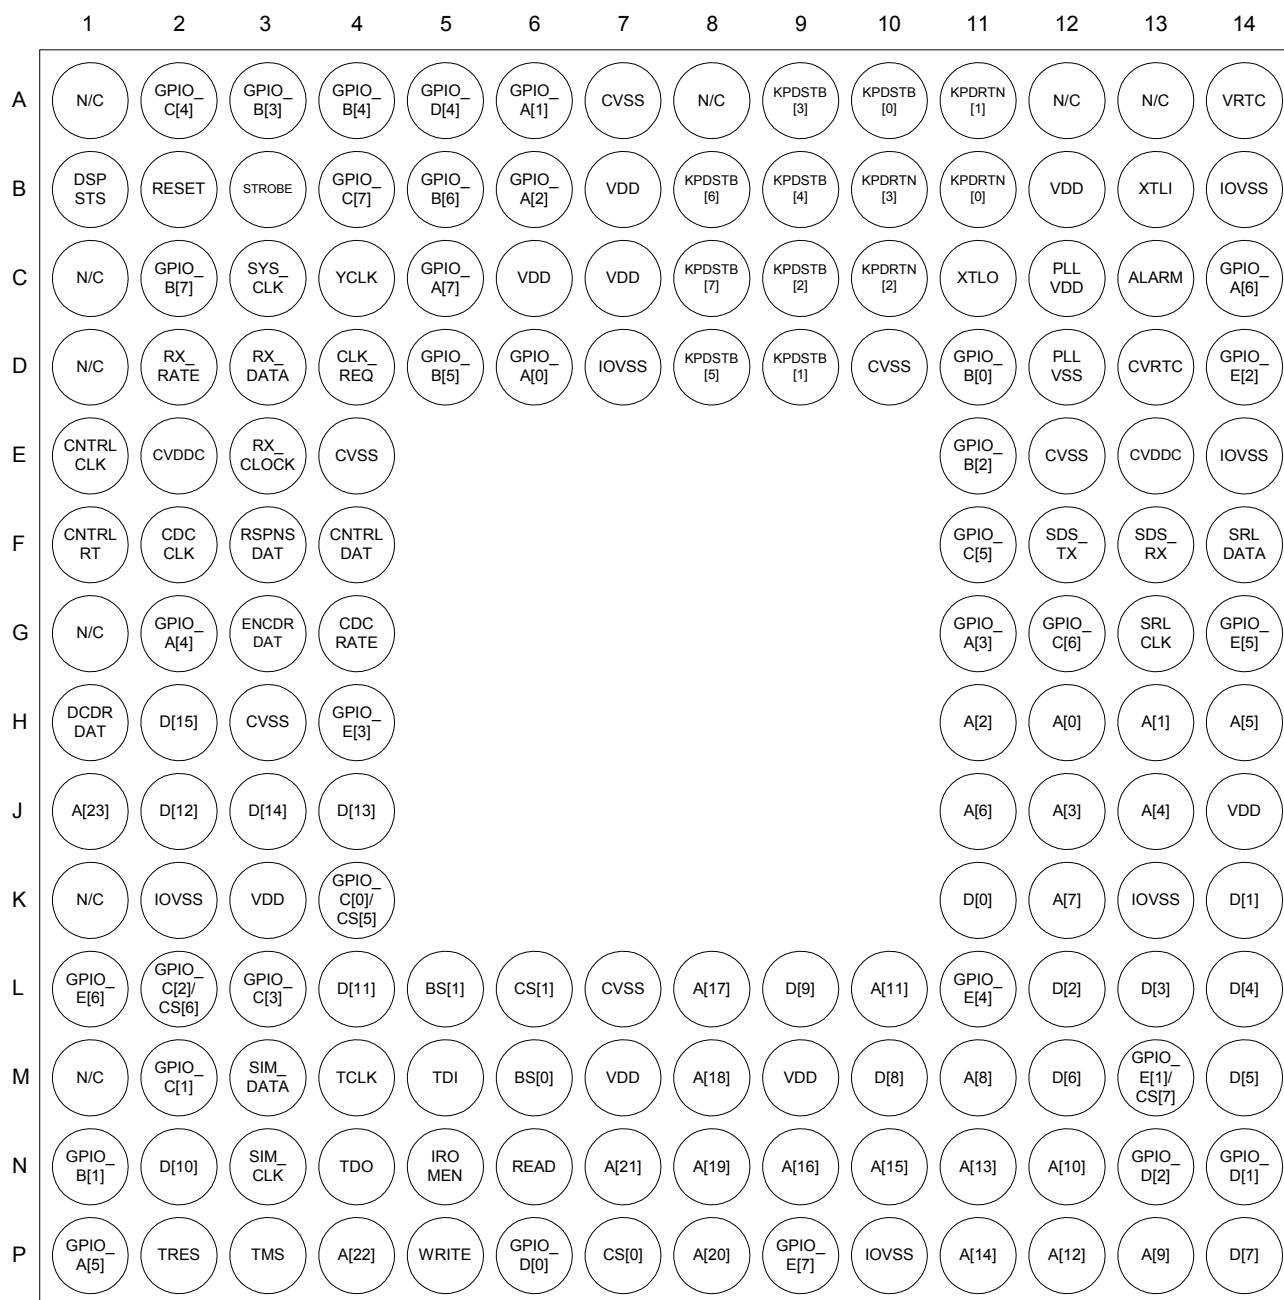

Figure 2. CX80501-31 and CX80502-33/-35 Pinout Diagram (Top View)
- The CX80501-31 is a 12 x 12 mm, 0.8 mm pitch, 160-pin Fine Pitch Ball Grid Array (FPBGA). The CX80501-31 supports up to Class 8 GPRS operation. The pin configuration is shown in Figure 2. The signal pin assignments and functional pin descriptions are provided in Table 2.
- The CX80502-33/-35 is a 12 x 12 mm, 0.8 mm pitch, 160-pin FPBGA. The CX80502-33/-35 supports up to Class 10 GPRS operation. The pin configuration is shown in Figure 2. The signal pin assignments and functional pin descriptions are provided in Table 2.